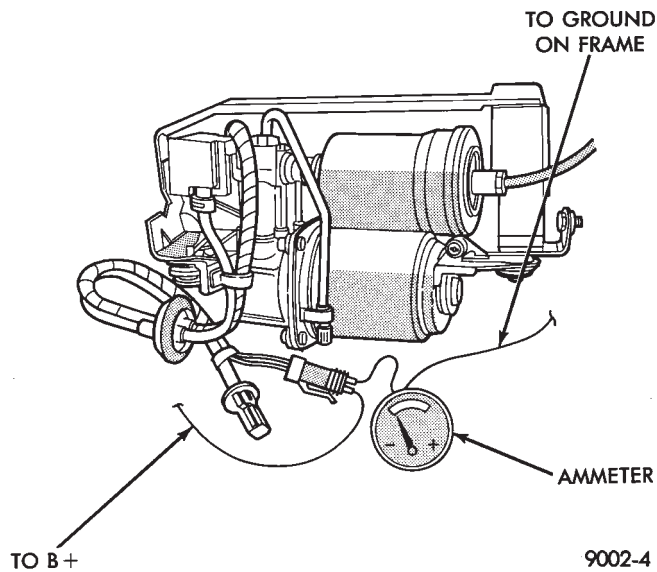

Fig. 6 Compressor Current Draw Test
(4) Connect an ammeter in series between the red wire terminal on compressor connector and a 12 volt power source. Also, connect a ground wire from the black wire terminal on the compressor connector to a good ground on the frame (Fig. 6).
(5) If the current draw to the compressor motor exceeds 21 amperes, replace the compressor assembly.
(6) When the air pressure stabilizes at 827 kPa (120 psi), disconnect the (+) wire lead from the connector. Replace the compressor assembly if any of the following conditions exists: